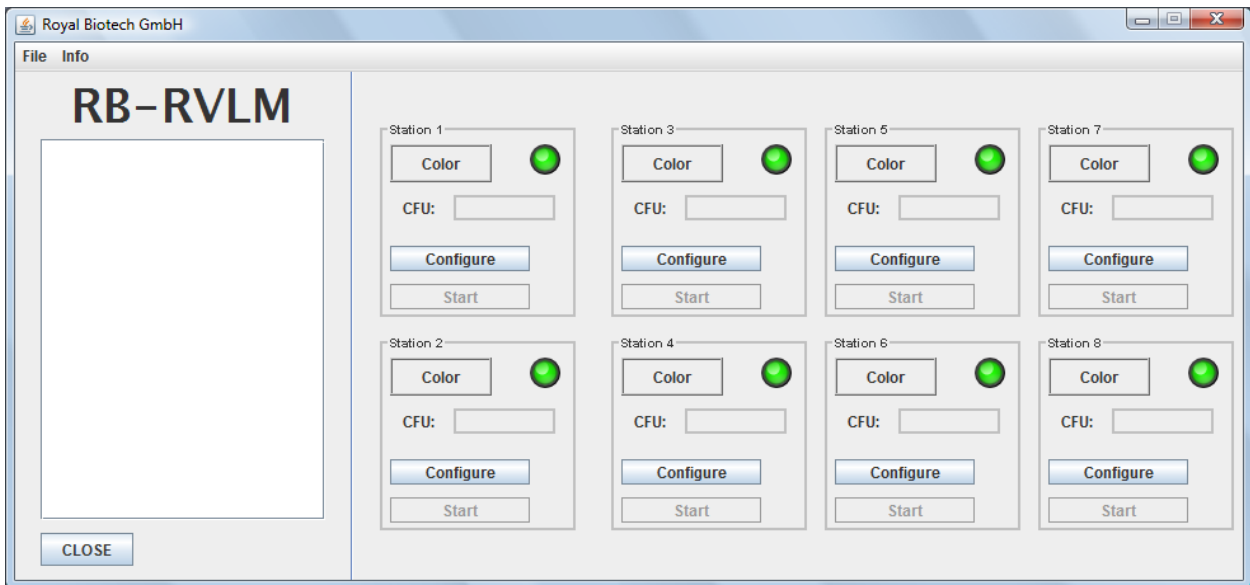

Fig. 4. RVLM – User interface, software ready
- If the communication port chosen is correct, the user interface shows the RVLM station “lights” green (fig. 4), thus indicating that it is possible to proceed with setting the parameters of analysis through the configuration of the single stations. If the communication port is not correct, it shows one of two box error (fig. 5 and fig. 6), in this case you must repeat the operation using another port until you select the right one;